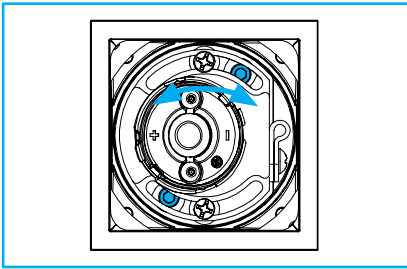
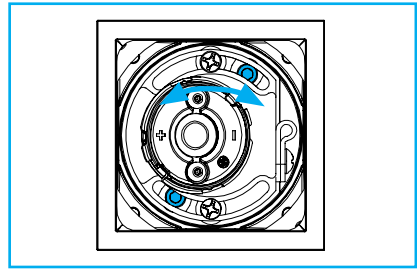

Fig.50
Fig.51
C. Loosen the screws shown in “Fig.50” for fixed or “Fig.51” for wallwash using supplied 7/64” Allen wrench and lower LED engine through aperture.
C. Loosen the screws shown in *"Fig.50"* for fixed or *"Fig.51"* for wallwash using supplied 7/64" Allen wrench and lower LED engine through aperture.